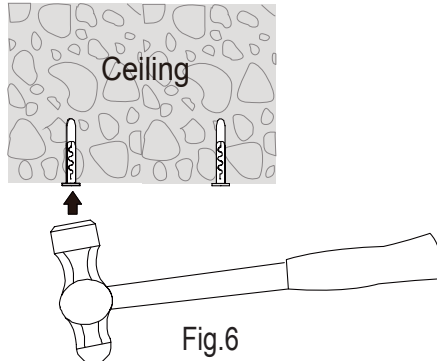

Fig.6
- Step5 Knock the plastic expansion screw into the hole which you drill (as Fig.6)